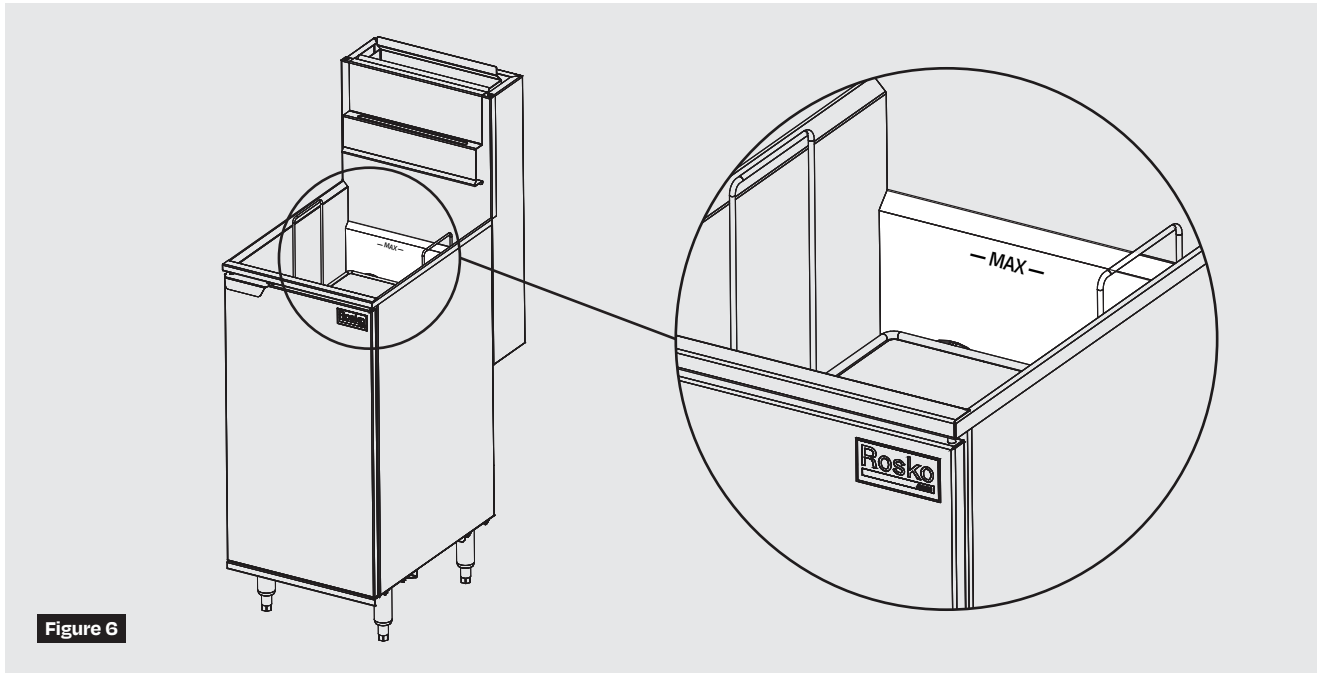

Figure 6
2. Fill the tank with 23 liters of oil or melted fat, until the level is one (1) inch from the rear edge of the tank. **(Figure 6)**
7. Fill the bowl with filtered oil up to the rear edge of the tank. **(Figure 6)**